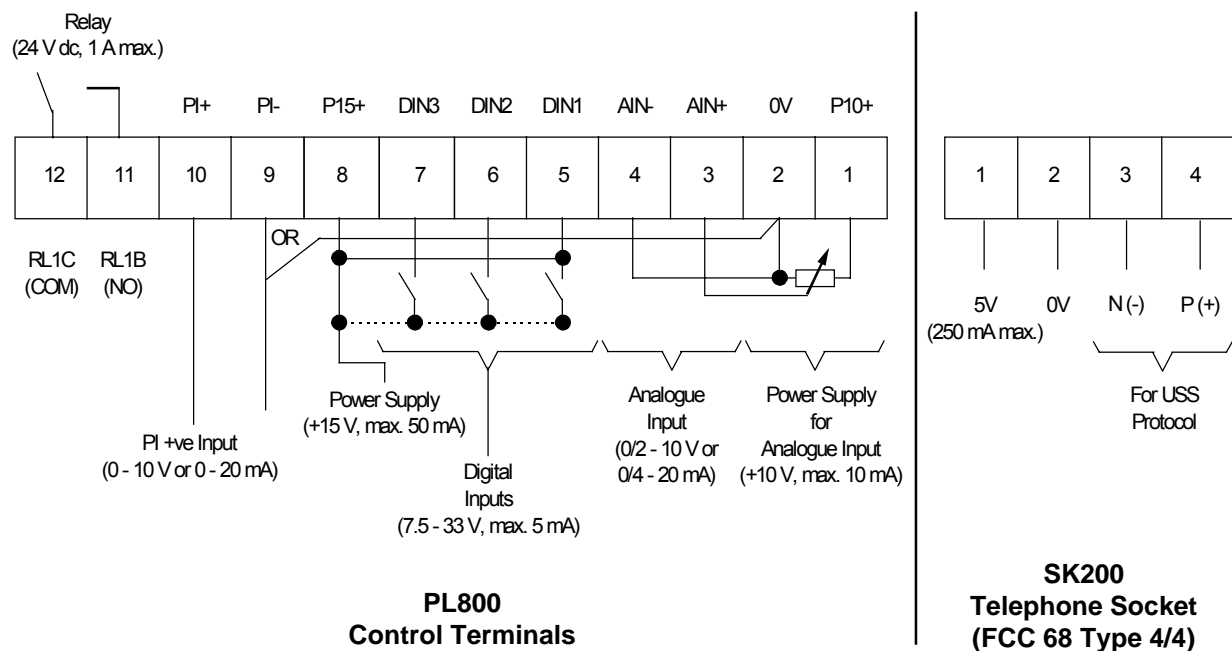
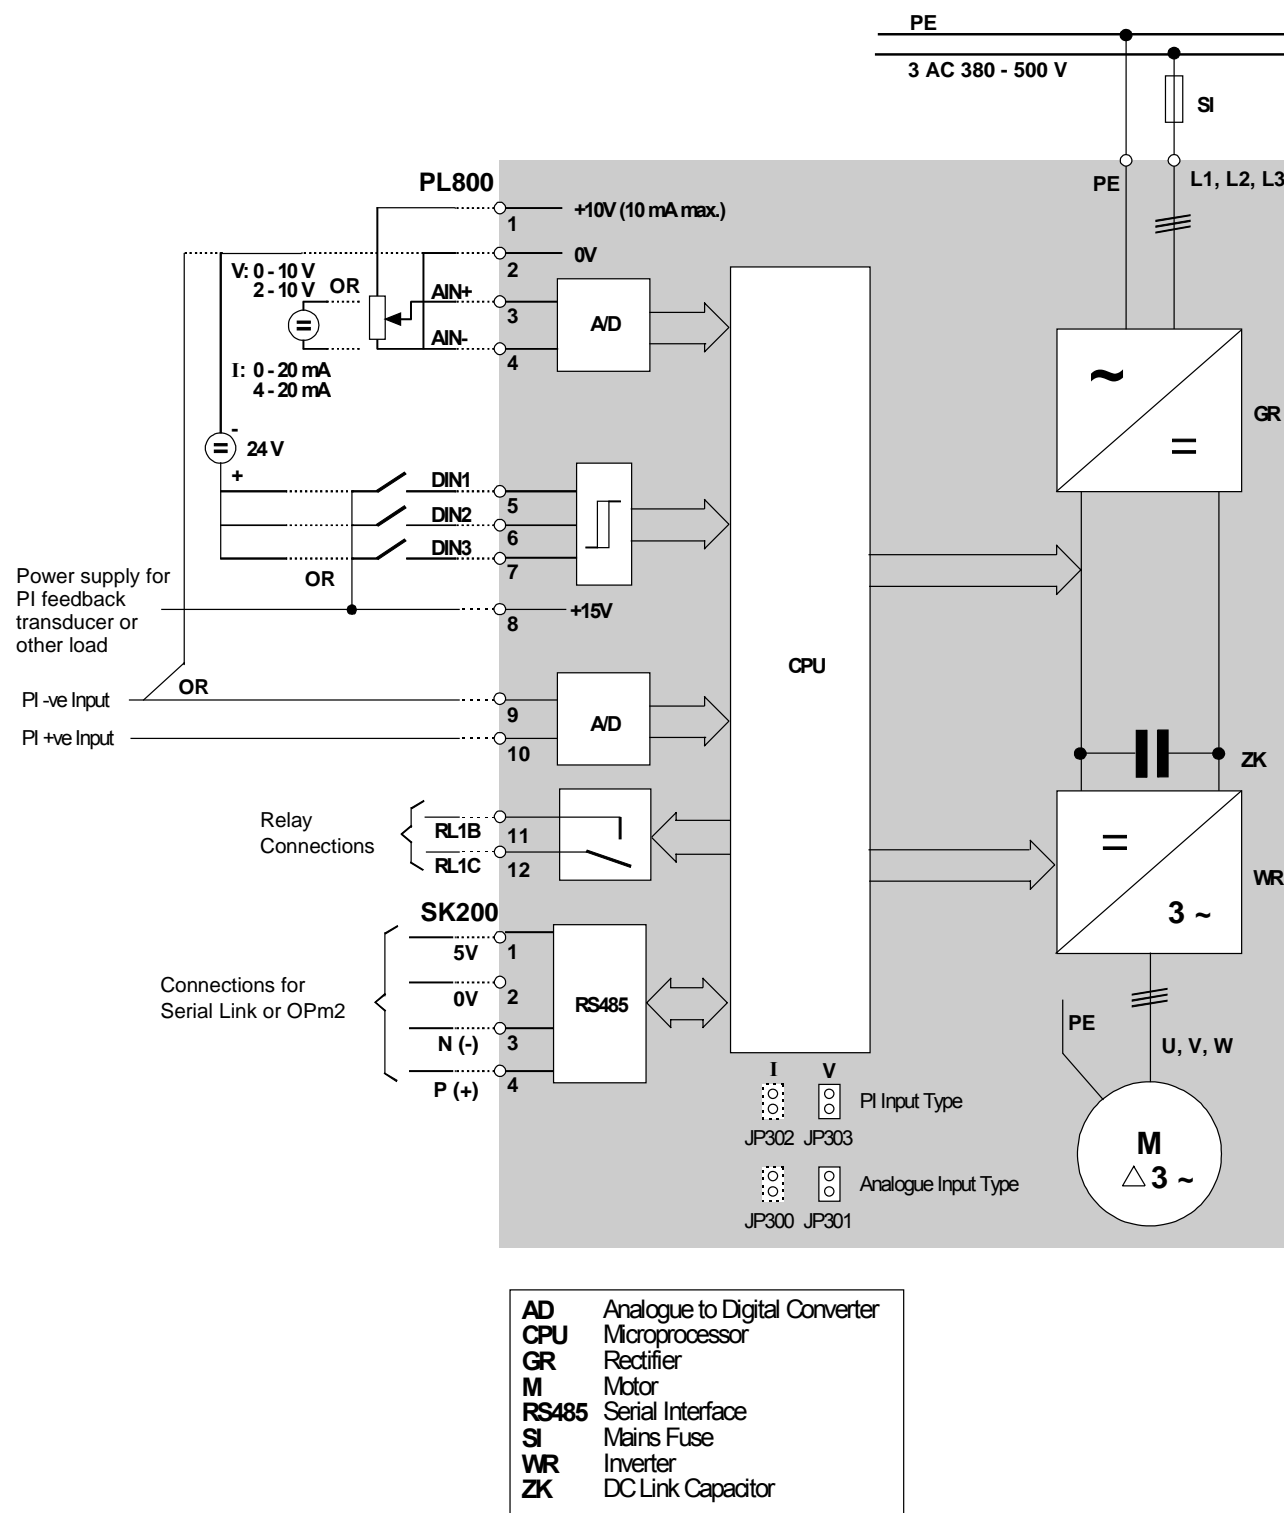

Figure 4a: Control Terminal Connections
Figure 3: Block Diagram
Remove the four M5 cross-head screws on the inverter's cover to access the electrical terminals (see Figure 3 and Figure 4).
Feed the power cable into the inverter via the gland hole nearest to the motor shaft (see Figure 3). Connect the power leads to terminals L1, L2, L3 and the separate earth.
Feed the control cable into the inverter via the appropriate gland hole (see Figure 3). Unplug connector block PL800 from the PCB and connect the control wires in accordance with the information given in Figures 4a and 4b (also see Figure 3).
R314 can be accessed by removing the right-hand gland hole cover (*see Figure 3*).
Connecting a serial link or the OPm2 to the serial interface is made simple by removing the appropriate gland hole cover (*see Figure 3*) and plugging a suitably terminated interface cable into the telephone socket (SK200).
- (4) Analogue input type selection is determined by jumpers JP300 and JP301. JP300 closed selects current input, JP301 closed (default) selects voltage input. These jumpers can only be accessed while the cover is removed (*see Figure 3*).
- (5) If the CombiDrive® is run unloaded (e.g. for test purposes) and vibration or trip conditions occur, change P077 from 0 to 1 (requires OPm2).
- (1) *Using the internal potentiometer only:*
- (a) For forward rotation, ensure that a link is fitted between DIN1 (pin 5) and P15+ (pin 8) on PL800 (*see Figure 4a*). For reverse rotation, connect the link to DIN2 (pin 6) instead of DIN1.
(2) Using a combination of the internal potentiometer and a run/stop switch:
- (a) Connect a run/stop switch between DIN1 (pin 5) and P15+ (pin 8) on PL800 (see Figure 4a) if forward rotation is required. If reverse rotation is required instead, connect the switch to DIN2 (pin 6) instead of DIN1.
- (1) Connect a 4.7 kΩ potentiometer to the control terminals as shown in Figure 3 or connect pin 2 (0V) to pin 4 (AIN-) and a 0 - 10 V signal between pin 2 (0V) and pin 3 (AIN+).
- (2) Ensure that a link is fitted between pin 5 (DIN1) and pin 8 (P15+).
- (3) Check that voltage input is selected by ensuring that the jumper is fitted to JP301.
- (4) Refit the cover, tighten the cover screws to the correct torque and then apply mains power to the inverter.
- (5) Turn the external potentiometer (or adjust the analogue control voltage) until the desired frequency is achieved. The unit will not switch on until a minimum of 2 V has been applied.